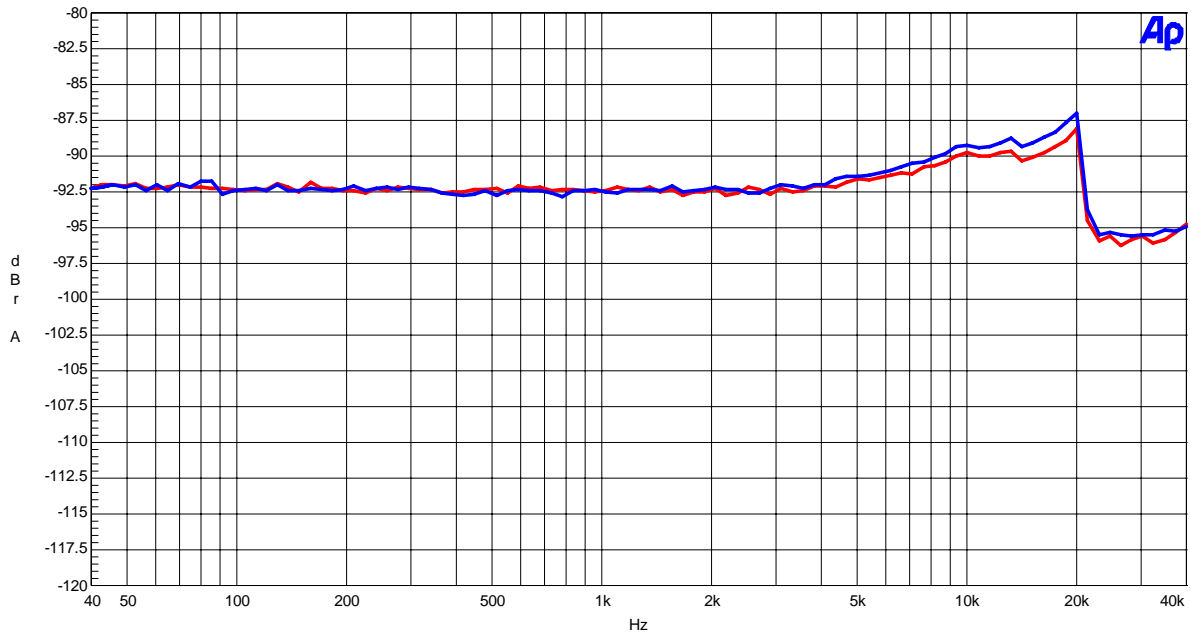

Figure 23. THD+N vs Input Frequency (Input Level=0dBFS)
- Figure 23. THD+N vs  $f_{in}$  (Input Level=0dBFS)